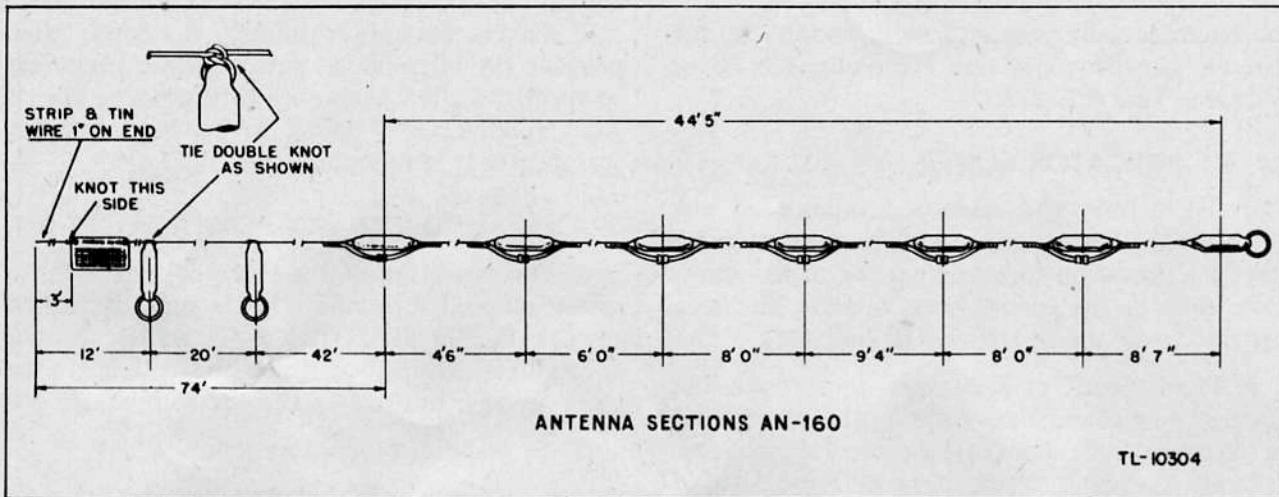

Figure 20. Antenna AN-160, dimensions.
(1) Push the ON button when the radio set is put into operation.
(2) When the set is shut down for the day, push the OFF button.
(3) If the vibrator unit is seriously overloaded, the circuit breaker will trip out shutting down the unit.
(4) To restore operation, push the ON button.
b. The antenna has been divided into a number of sections which may quickly be connected or disconnected by means of jumpers with plug and jack connectors (fig. 20).